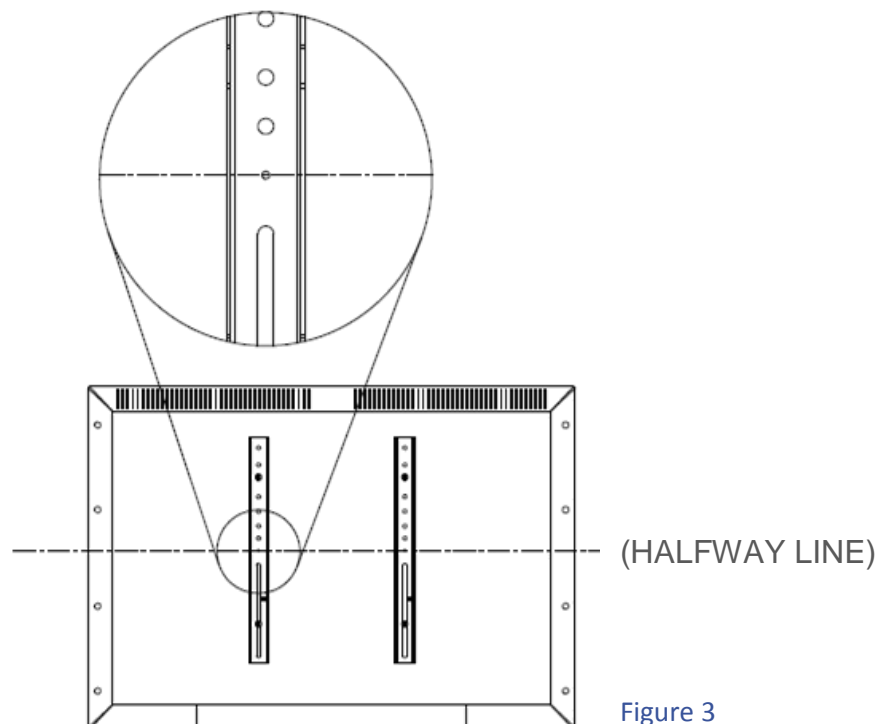

Figure 3
STEP 9: For a balanced unit, align the centre hole of the bracket with the halfway line of your display (Figure 3) and determine equally spaced screw fittings, taking into account the size of your display (adjustment may be required depending on screen type).